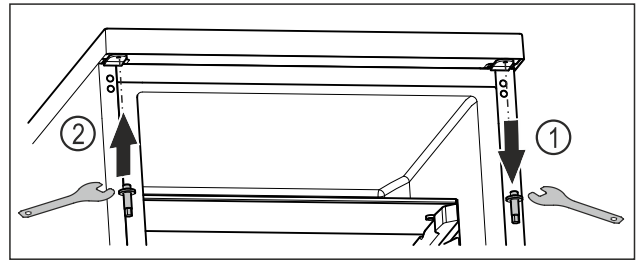

Fig. 22
- ▶ Unscrew the upper bolt with an Allen key. Fig. 22 (1)
- ▶ Tighten the bolt on the opposite side with an Allen key. Fig. 22 (2)